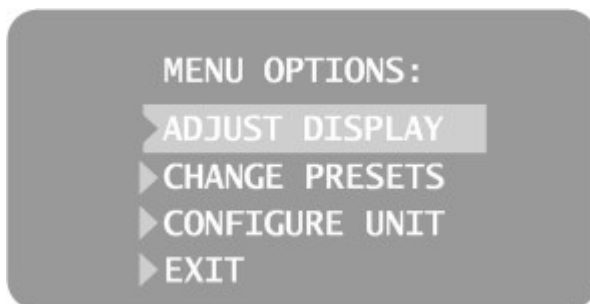
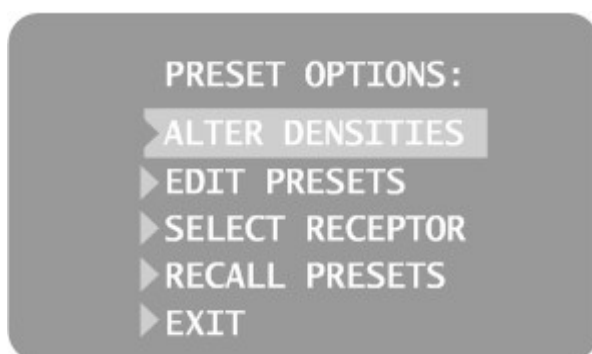
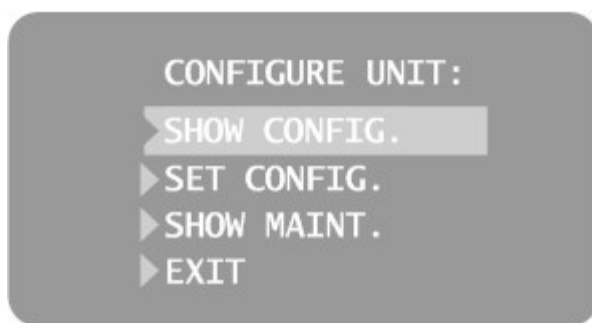
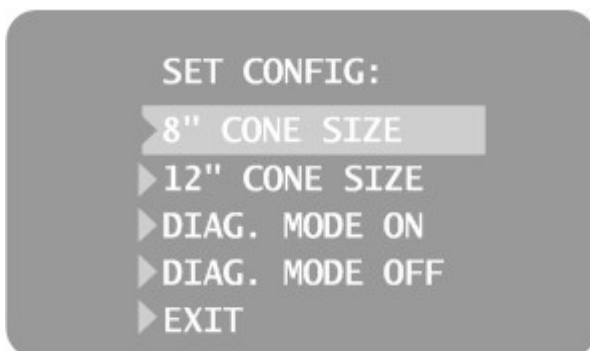

Figure 49
Figure 51
Figure 52
Figure 53
1. To enter system configuration mode, press the Tooth Selection and Patient Size Selection buttons on the Operator Panel simultaneously for 5 seconds. The display shows the Main System Configuration menu, as shown in *Figure 49*, and the Ready Indicator blinks.
1. From the Main System Configuration menu, *Figure 49*, select ADJUST DISPLAY. You will see the Display Options menu shown in *Figure 50*.
1. From the Main System Configuration menu, *Figure 49*, select CHANGE PRESETS. You will see the Preset Options menu shown in *Figure 51*.
1. From the Main System Configuration menu, Figure 49, select CONFIGURE UNIT. You will see the Configuration menu shown in Figure 52.
Selecting SET CONFIG from the Configuration menu, *Figure 52*, displays the Set Configuration menu, *Figure 53*, with options to change the cone size. The Preva Dental X-ray System is preset for use with the standard supplied 8" [20 cm] Cone. The 12" [30 cm] Cone (30-A2033) is available. Using the longer Cone requires longer exposure times, which the Preva automatically selects when you change the Cone size in the Set Configuration menu.
1. From the Main System Configuration menu, *Figure 49*, select CONFIGURE UNIT. You will see the Configuration menu shown in *Figure 52*.
2. Select SET CONFIG. You will see the Set Configuration menu, shown in *Figure 53*.
3. Select the SET CONFIG option. You will see the Set Configuration menu, *Figure 53*.
4. Press the down arrow to highlight the DIAGNOSTIC MODE ON option, and press Enter. You will see the Configure Unit menu, *Figure 52*.
2. Press the down arrow to highlight the CONFIGURE UNIT option, and press Enter. This displays the Configure Unit menu, *Figure 52*.
3. Press the down arrow to highlight the Set Configuration option, and press Enter. You will see the Set Configuration menu, *Figure 53*.